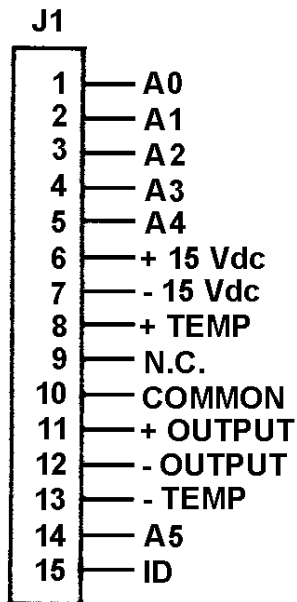

FIGURE 3.2 - ZOC33 INPUT/OUTPUT CONNECTOR
- (1) Make and break all connections to the module with the power off.
- (2) Recommended power input to the module is $\pm 15\text{Vdc}$.
Figure 3.2 shows the output connector pin assignments for all of the ZOC33 variations. This figure shows the RTD connections (+Tem and -Temp) and the TEDS ID chip output (ID). These connections may not be active on all modules. Refer to Section 2, **Introduction** for more information.